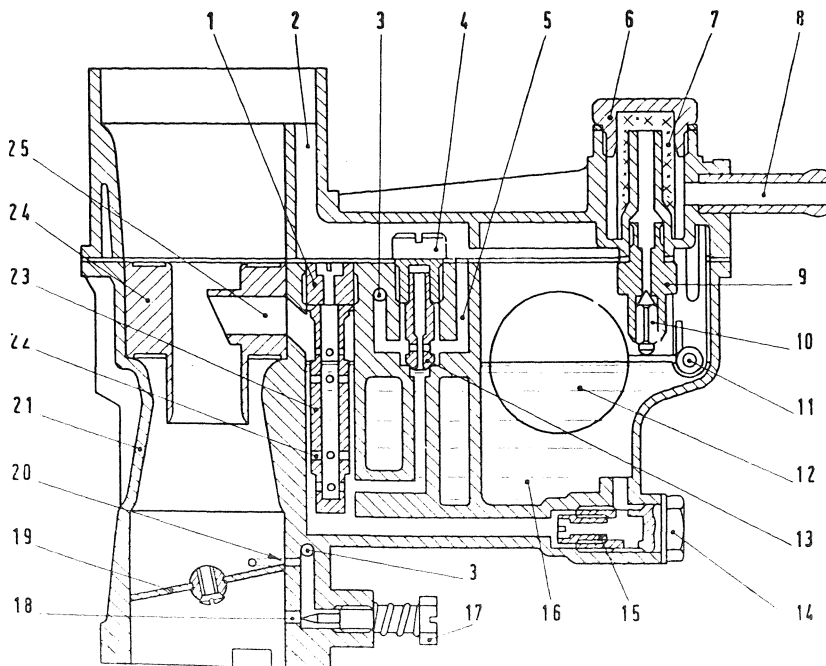

Fig. 150.
Referring to the diagram (fig. 150) the operation of Weber 26 IM carburetor can be outlined as follows: the air from above, flows through Venturi (24) where it mixes with the fuel issuing from nozzle (25) and is then conveyed to cylinders through primary Venturi (21) and throat where throttle (19) is adjusting the flow.